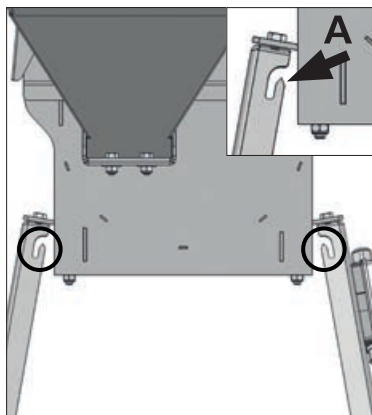

Fig. 06
There are small tabs in the supports for shredders (A), to hang a bag from in equipment [Fig. 06].